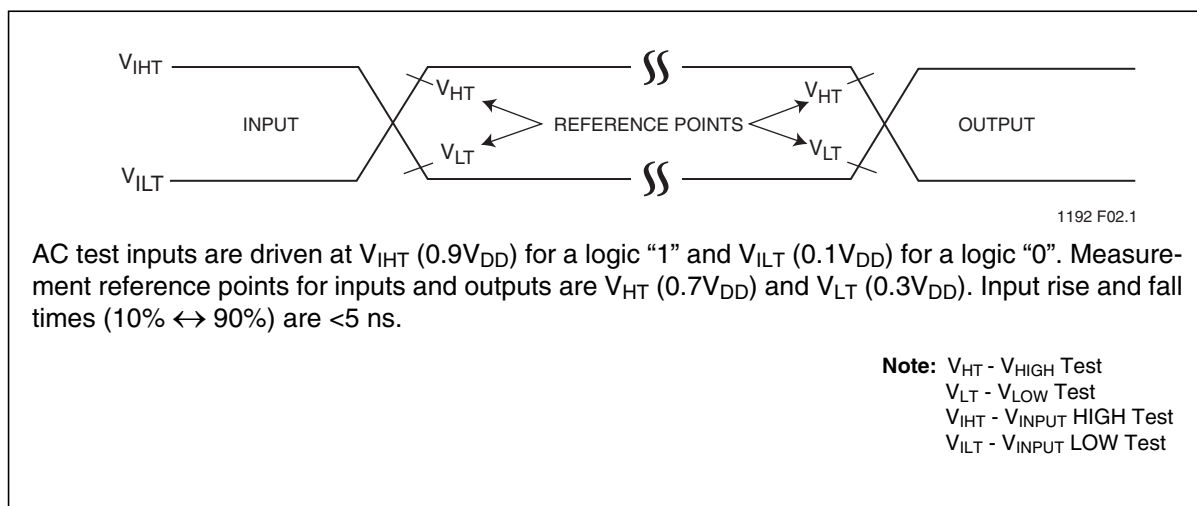

Figure 19: AC Input/Output Reference Waveforms
1. See Figures 19 and 20
| 03 | <ul style="list-style-type: none"> Moved the 2 Mbit and 4 Mbit parts to data sheet S71231 Moved the 1 Mbit part to data sheet S71233 Changed AC timing parameter T_{CES} and T_{CEH} timings to 20 ns AC timing point corrected in Figure 19 Added RDSR instruction in Figure 6 Added System Power-up Timing Re-aligned CE# with CLK in Mode 3 for all figures Corrected block address range to $A_{MS}-A_{15}$ in "Block-Erase" on page 14 | Apr 2003 |